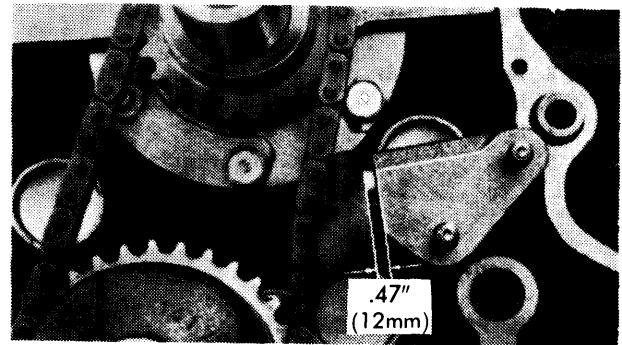

Fig. 26 Measuring Oil Pump Drive Chain Tensioner Extension
1) With front engine cover removed, check chain adjuster. If it extends more than .47" (12 mm) from housing, replace chain or adjuster Fig. 26.